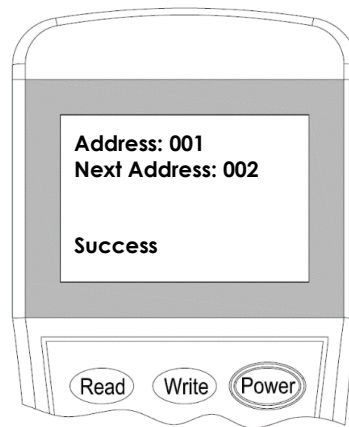

Figure 9
3. Input the desire device address value from 1 to 254, and then press **"Write"** to save the new address (Figure 9).